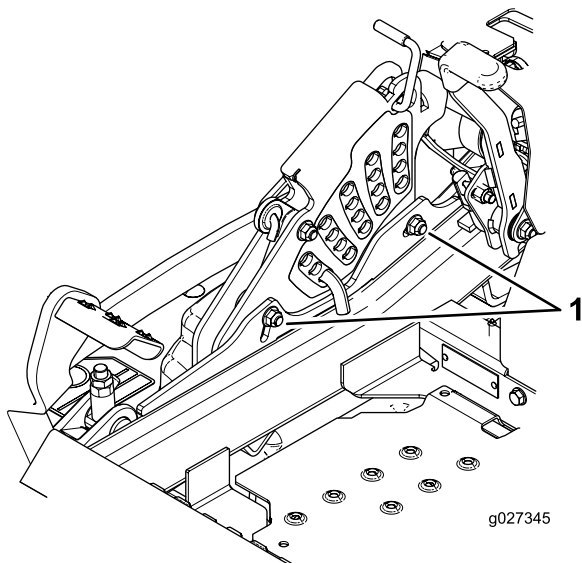

Figure 90
12. To adjust the single point system, loosen the two bolts at the bottom of the height of cut plate. Refer to Figure 90.
14. Tighten the two bolts at the bottom of the height of cut plate (Figure 90). Torque to 27-33 ft-lb (37-45 N-m).